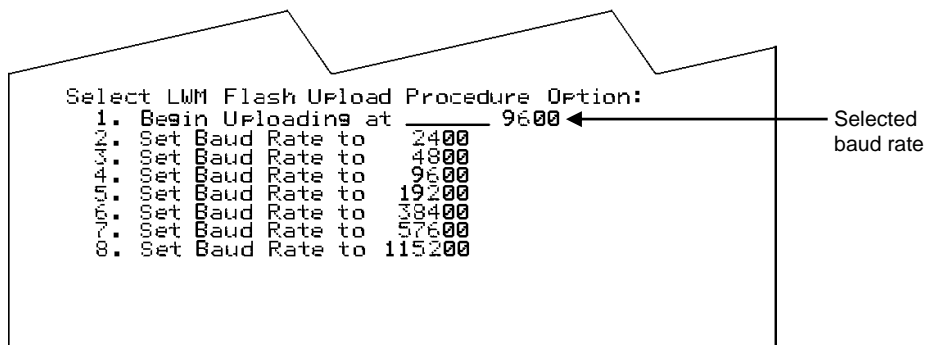

Figure 19-6. Select Lufkin Flash Upload Procedure Option Screen
5. Go to the Lufkin Well Manager RPC, press in and hold <MENU>, turn off the power, turn on the power and wait until the Lufkin Well Manager initializes. Continue to press <MENU> until a display screen similar to Figure 19-6 with a menu across the lower half of the screen is presented on the Lufkin Well Manager operator interface.